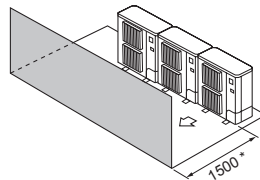

Fig. 2-15
- ③ Kun forhindringer foran (Fig. 2-15)